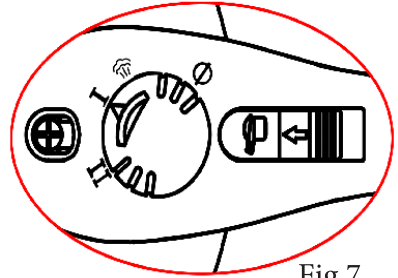

Fig.7
3. Equipping to adjust pressure-limiting valve, regulating working pressure very easy. (fig 7), the position of low pressure step)
Closing the lid, according to requirement, adjust the pressure-limiting valve to low pressure step or high pressure step. (Fig. 7)